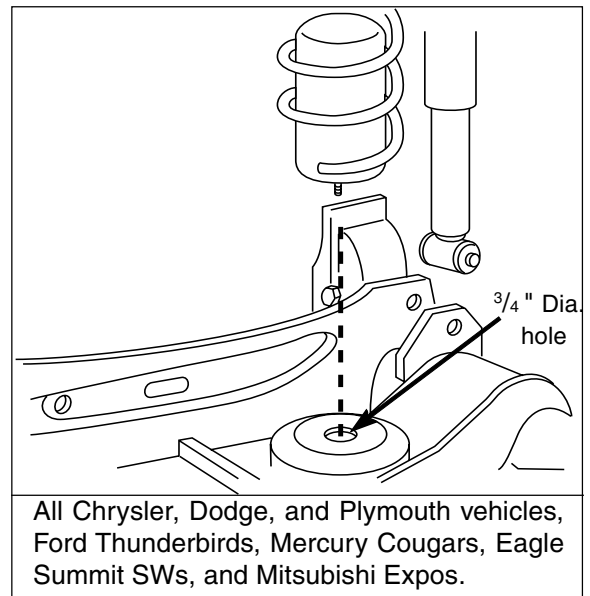

Figure 1
Multiple Applications – See special notes and Figures 1, 2 and 3 for your particular vehicle.
- (3) Stick the template on the underside of the lower spring seat with a dab of grease.
- (4) Centerpunch and drill  $\frac{3}{4}$ " diameter hole. Remove all burrs and sharp edges (Figure 1).
- (6) Insert air cylinder into coil spring with stem at bottom. Push the cylinder up within the coil by hand or with a blunt instrument such as a spoon-type tire iron.
- (7) When the cylinder is completely within the coil, remove the cap and allow the cylinder to assume its "as molded" shape. For Thunderbirds or Cougars skip to step (9), otherwise continue on to step (8)
- (8) For Chrysler, Dodge, or Plymouth: With the air cylinder stem down (Figure 1) install coil springs into spring seats and rotate to proper location. Attach lower shock absorber attaching bolts. Torque to 25 ft-lbs.
- (9) Continue with air line installation on pages 2-4.
- (1) Increase the diameter of the hole in the lower spring seat to  $\frac{3}{4}$ " diameter. Remove all burrs and sharp edges.
- (2) Insert air cylinder into coil spring with barbed stem towards the bottom. Push the cylinder up within the coil by hand or with a blunt instrument such as a spoon-type tire iron (Figure 1).
- (3) When the cylinder is completely with in the coil, remove the cap and allow the cylinder to assume its “as molded” shape.
- (4) Continue with air line installation on pages 2–4.
If the vehicle's headlights are shining into the trees or the vehicle is leaning to one side, then it is not level (fig. 1). Raise the air pressure to correct either of these problems and level the vehicle.